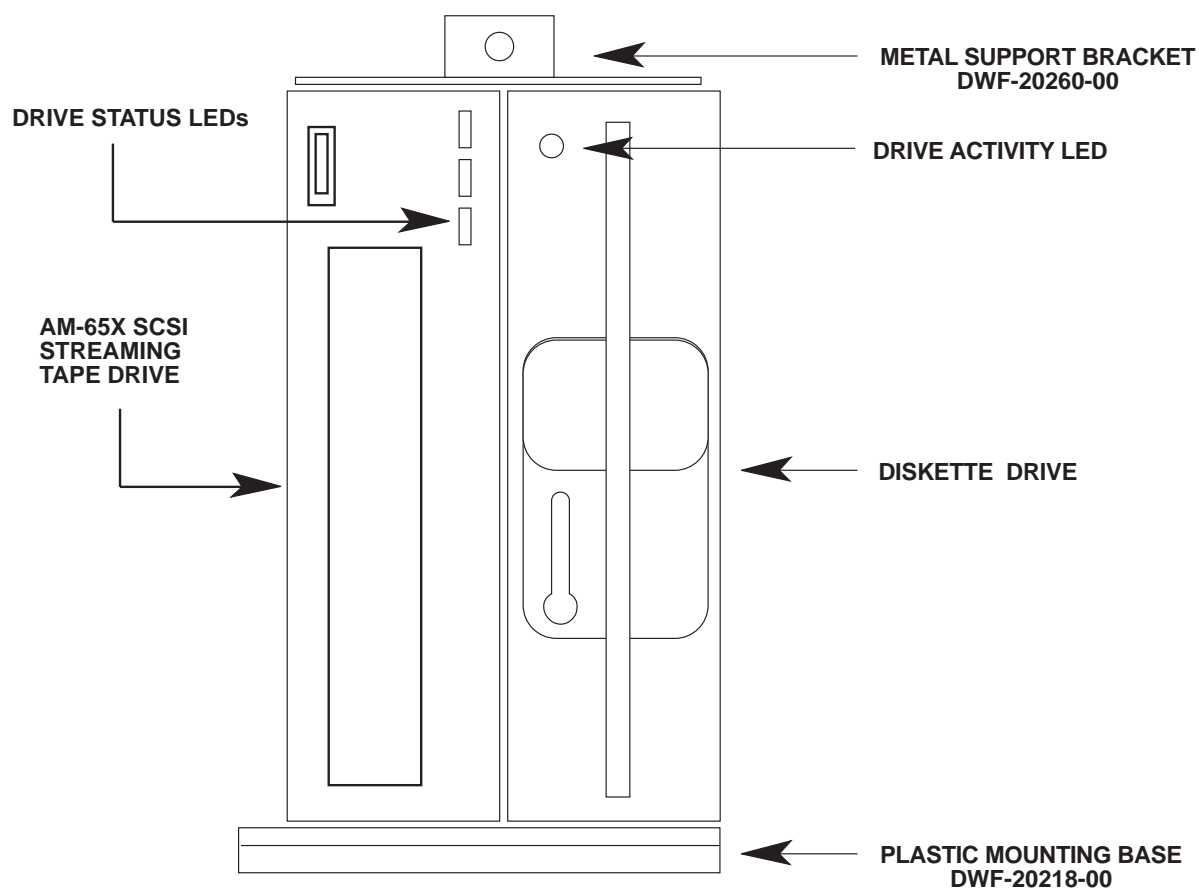
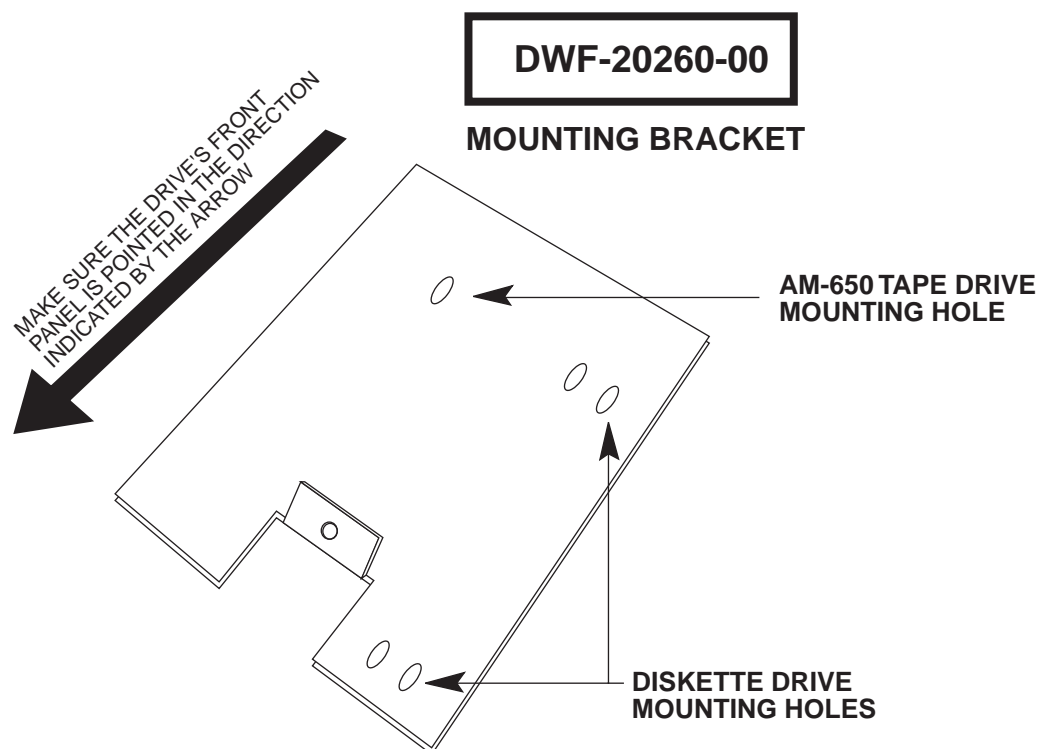

Figure 3 - Tape Drive Mounting Assembly
Figure 5 - Metal Support Bracket
1. Set the drive on top of the plastic mounting base with its status LEDs away from the plastic mounting base. This insures the drive is in its proper position for both pedestal and rack mount computers. See Figure 3.
3. Install the two screws (included in the mounting kit) that hold the plastic mounting base to the drive. If you are installing a diskette drive or another tape drive along with your AM-65X, mount this drive next to the AM-65X, as shown in Figure 3.
5. Set the metal support bracket on top of the drive assembly as shown in Figure 3. Position the bracket so the mounting hole shown in Figure 5 aligns with the screw hole on the side of the AM-65X, and the screw hole to attach the drive assembly to the front bezel aligns with the screw hole in the front bezel.